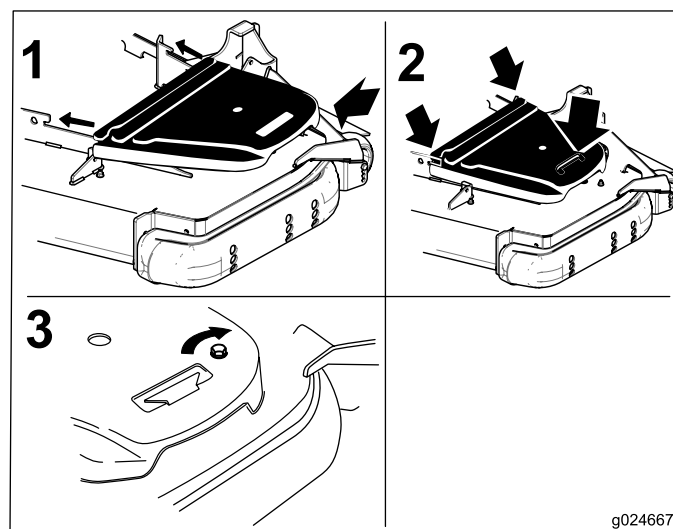

Figure 72
12. Install the belt covers (Figure 72).